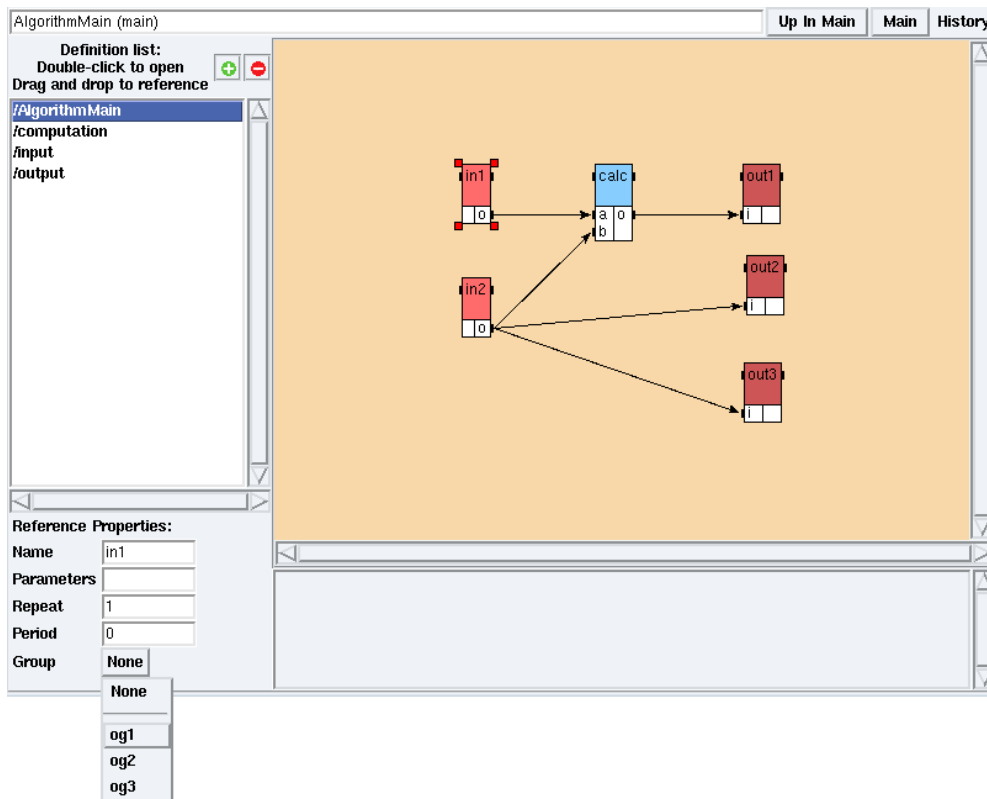

Figure 1.24: Attach a reference to an operation group
- select the operation in1, click on the **Group** button of its **Reference Properties** then select **og1** (cf. figure 1.24),